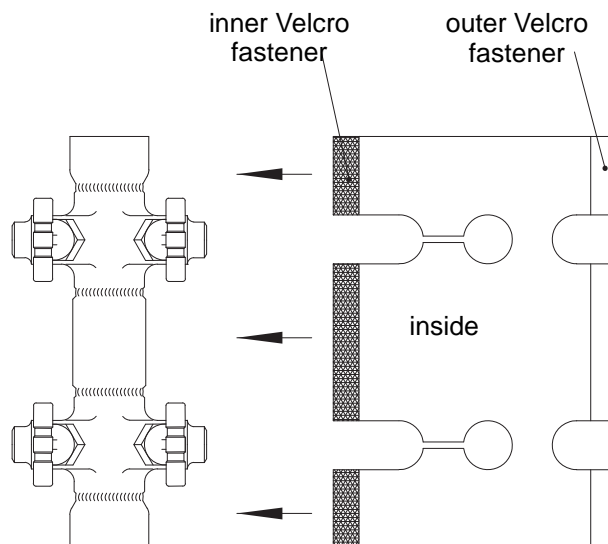

Fig. 6: Base insulation
- With the CODI® already fixed to the carrier structure, push base insulation (Fig. 6) between body (Pos. 1) and carrier structure.